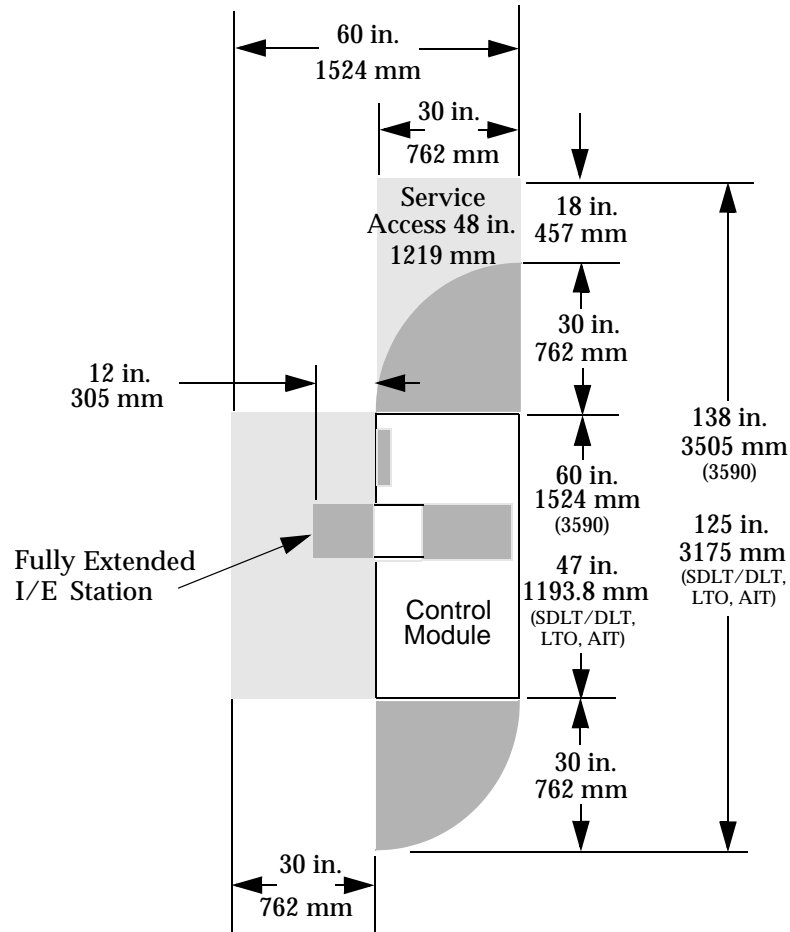

Figure 3-1 Basic Library with No Expansion Modules
- Basic Library with No Expansion Modules, Figure 3-1